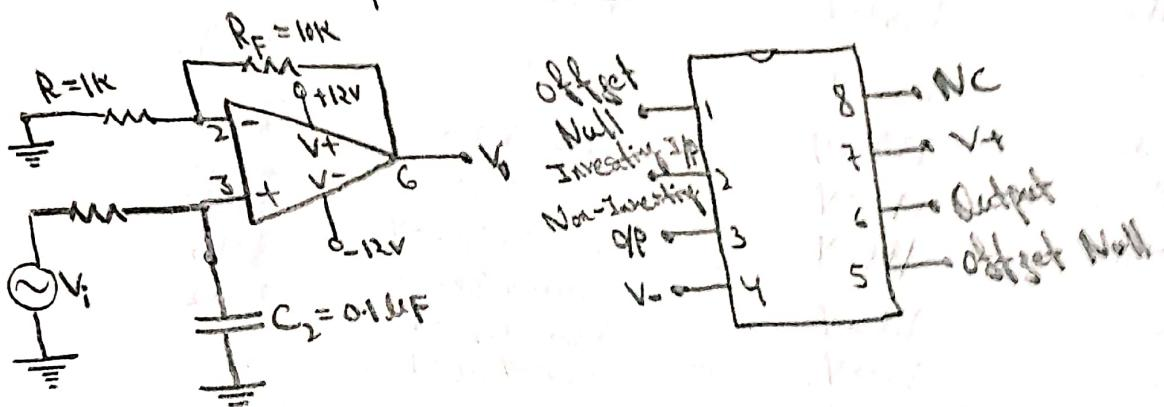

Fig. 1 Active low pass filter
- Fig. 1 shows a high pass filter. Connect the circuit and note the power supply ( $\pm 12V$ ) ground is connected to the circuit ground.